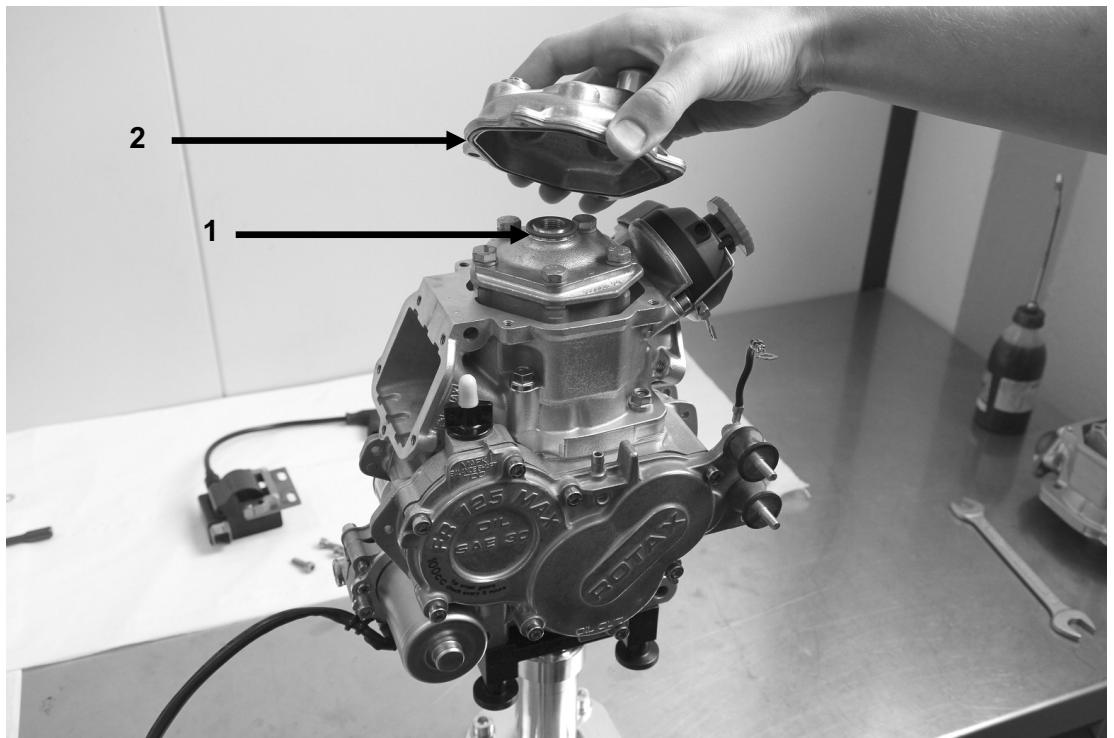

Fig. 37 (K00344)
- Place O-ring (Pos. 1 / Fig. 37) on the combustion chamber insert.
- Lubricate the O-ring (Pos. 2 / Fig. 37) lightly to ensure that it adheres better to the groove of the cylinder head cover, otherwise fix it with sealant (Silastic).
- Insert O-ring (Pos. 2 / Fig. 37) into the groove of the cylinder head cover.